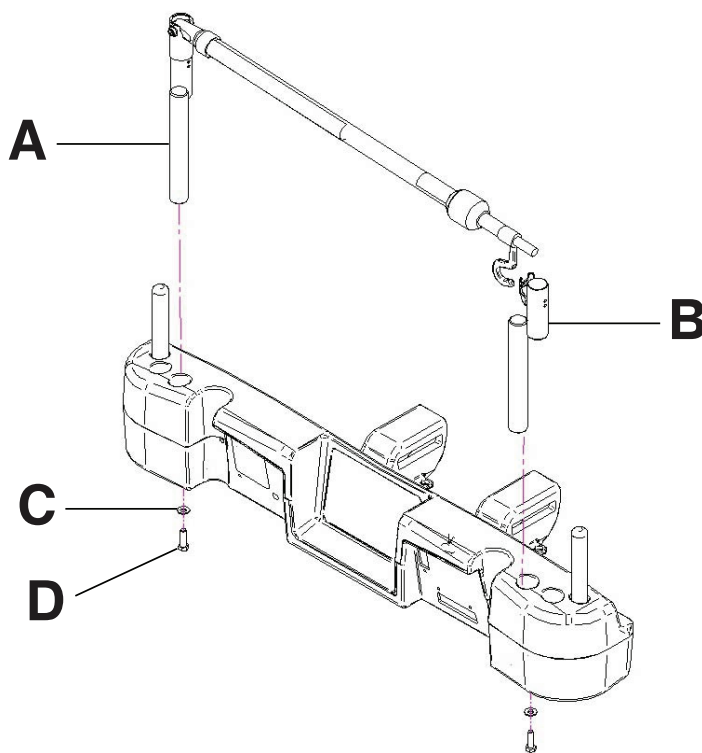

Figure 119: Single two stage IV pole (Left side shown)
1. Using a 3/8 in. drive ratchet and a 1/2 in. socket, install one washer (C) and one bolt (D) to secure the IV pole into the socket at the head end of the product (A) (Figure 119 on page 107).
2. Using a 3/8 in. drive ratchet and a 1/2 in. socket, install one washer (C) and one bolt (D) to secure the IV pole support into the socket at the head end of the product (B) (Figure 119 on page 107).